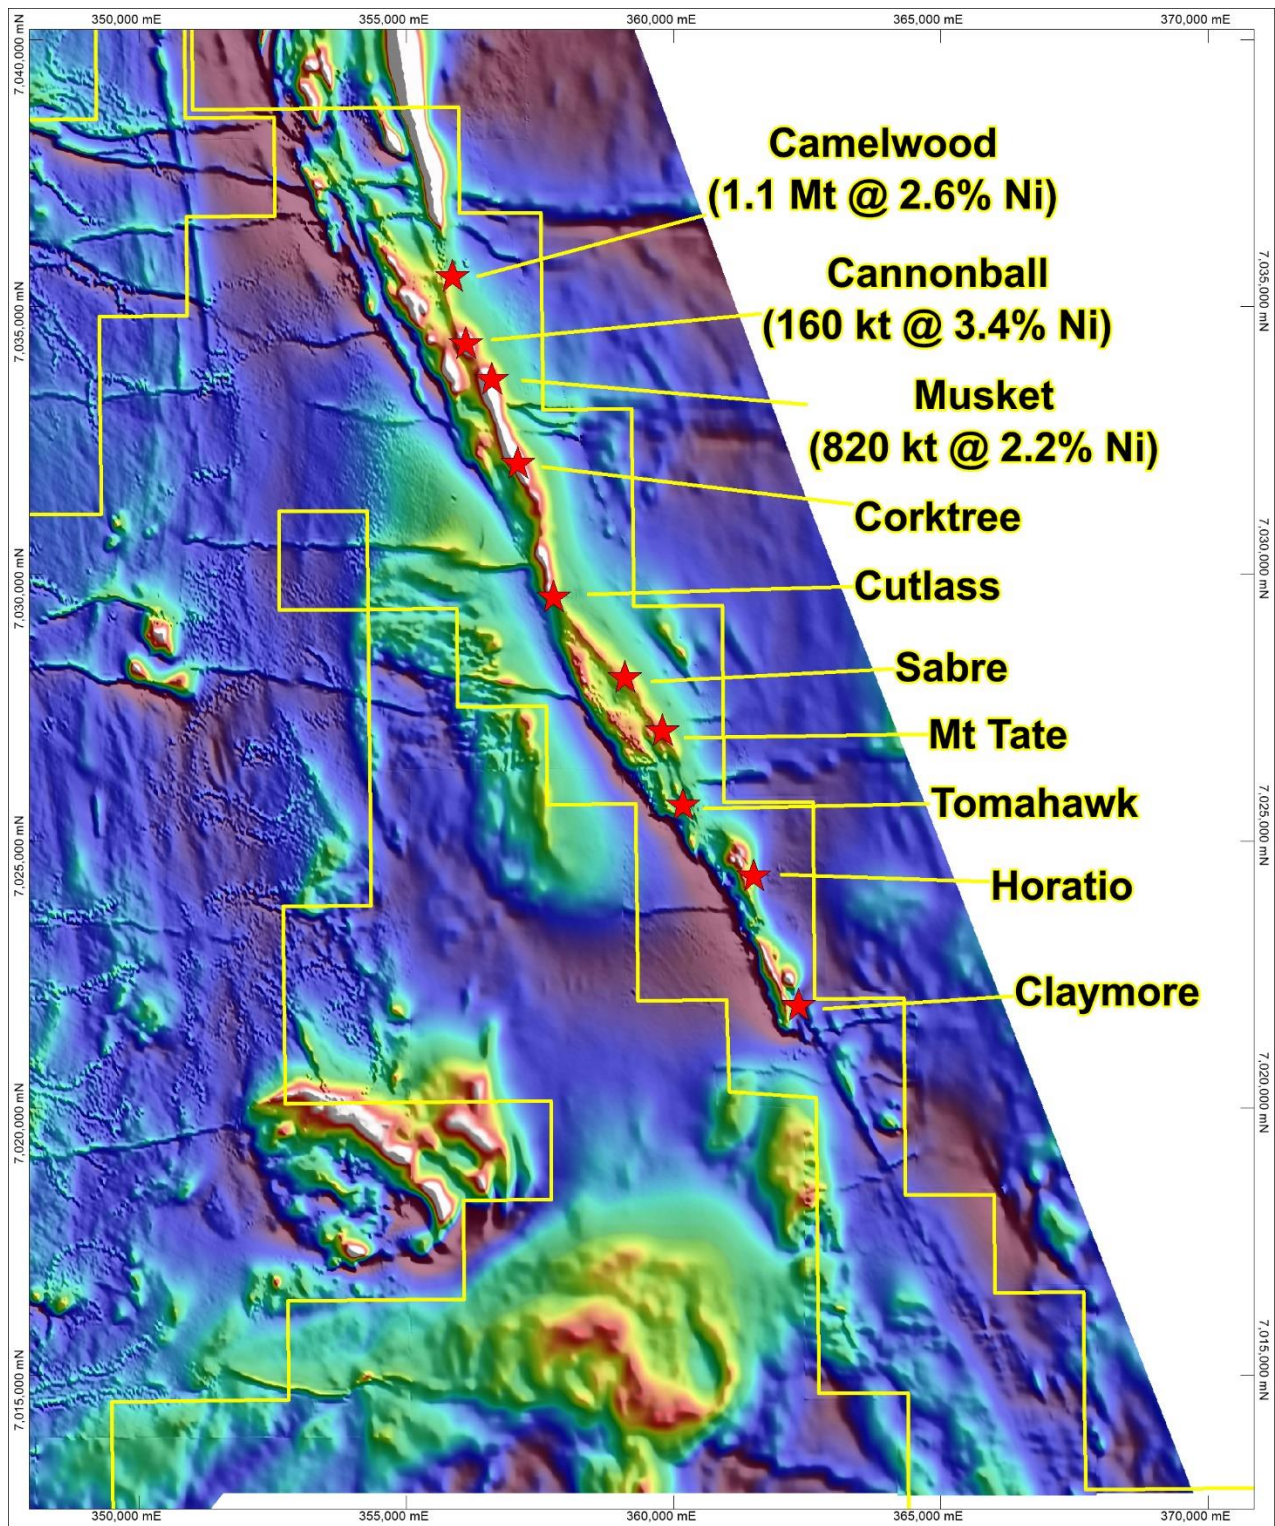

Figure 2: Fisher East Nickel Project, Prospect and Resource Locations
- To extend the Musket and Camelwood deposits (Figure 2) by testing strong downhole EM anomalies, and